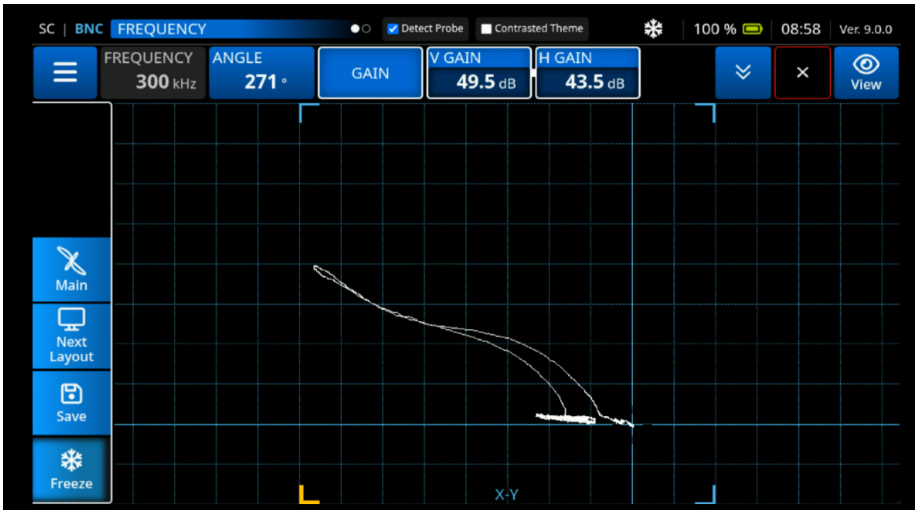

Figure 3-9 Adjusting the Gain
- Adjust the **Gain** to set the signal to **50% FSH** (See Figure 3-9 on page 52).